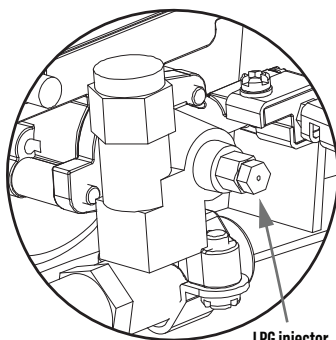

FIG. 1 - 2-STAGE GAS VALVE
3. Note that the valve is already fitted with 2-stage injectors (natural gas and LPG) as shown in Figure 1.